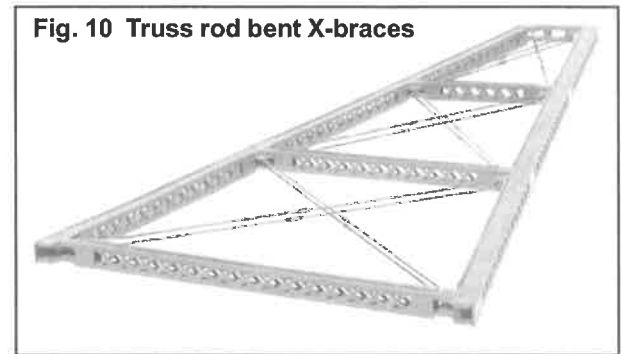

Fig. 10 Truss rod bent X-braces
8. **Truss Rod Modification:** Narrow gauge or light weight steel viaducts often used truss rod X-braces instead of the cross-laced lattice X-braces. To use truss rod bent and tower X-braces, substitute .018" dia. brass wire (not included) and Grandt #4019 turnbuckles (not included) for the bent X-braces parts (11), (12) and (13), and the tower X-braces part (20). The truss rod modification will require 96 turnbuckles and thirteen 36" lengths of brass wire. See fig. 10 & 11.
Tip: The turnbuckles were often located near the center of the truss rods as shown in fig. 10 & 11. Alternatively, they were sometimes located approximately six feet above the bent struts so the turnbuckle could be reached and tightened by a worker standing on the bent strut.